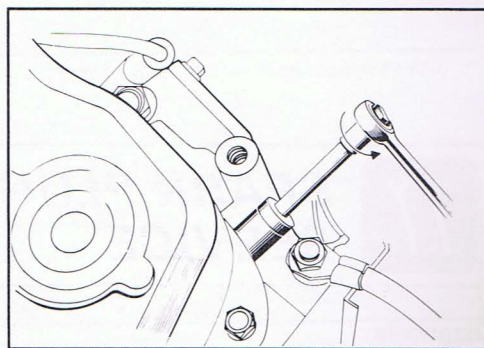

Figure 2 - Removing spark plug
5. Remove the first spark plug using a 5/8" deep socket. (Turn counter-clockwise.) See Figure 2.